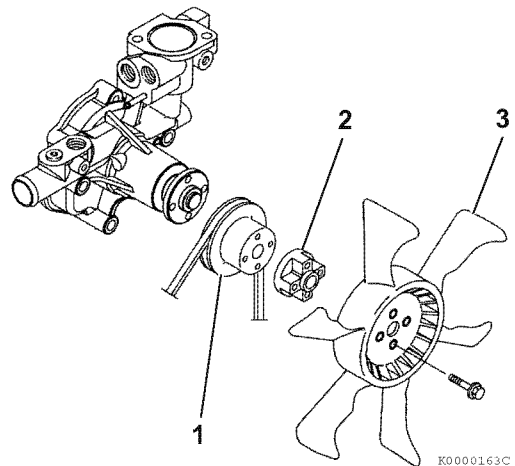

Figure 9-12
Remove the engine cooling fan guard (if equipped), engine cooling fan (**Figure 9-12, (3)**), spacer (**Figure 9-12, (2)**), engine coolant pump V-pulley (**Figure 9-12, (1)**) and V-belt.